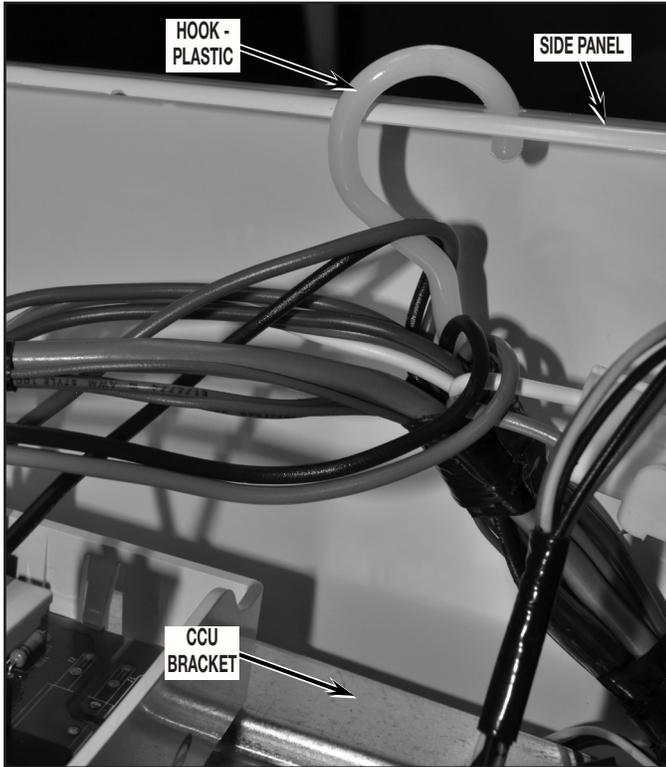

FIGURE 16
20. To gain further access to the burner assembly the drum will need to be removed. Before removing drum from dryer the CCU & bracket assembly must be secured in position to side panel using the plastic hook attached to the main harness. This will allow the CCU assembly to hang in place rather than dropping down when the drum is removed. See *Figure 16*.